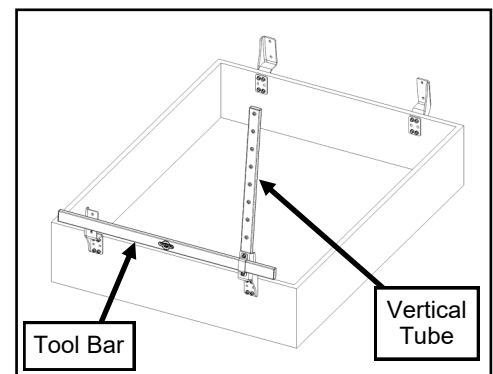

Fig. 2
2. See fig. 2. With an assistant, install a UTV Tool Rack Vertical Tube (ref.: 32" long tube) onto the inboard side of the mounting bracket, as shown. Ensure that the two threaded inserts on the opposite side of the tube are at the top.